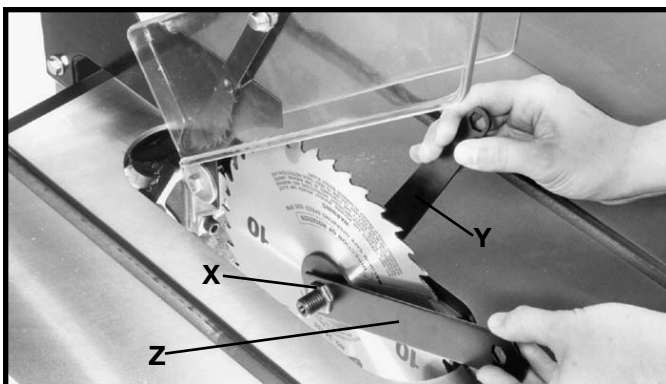

Fig. 26
11. Reassemble the saw blade, making certain the teeth are pointing down at the front of the saw table as shown in Fig. 26, and assemble the outside blade flange and arbor nut (X). With open end wrench (Y) on the flats of the arbor to keep it from turning, tighten arbor nut by turning box end wrench (Z) counterclockwise.